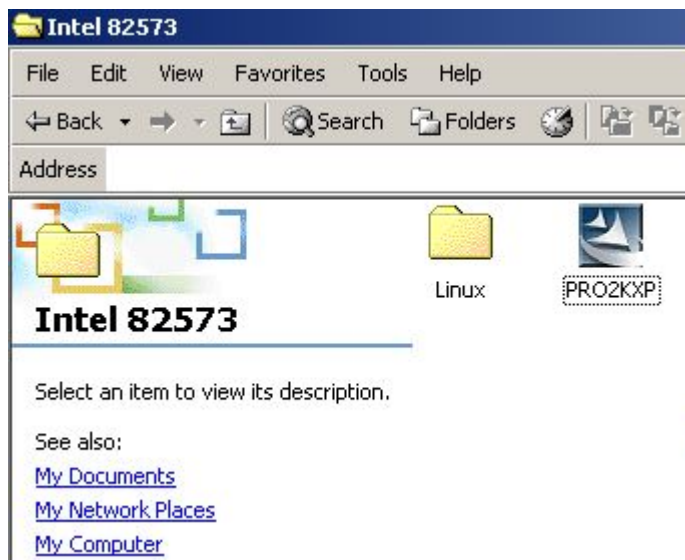

Figure 6-23: Intel® 82573 Driver Startup Icon
Step 10: Click the startup icon in **Figure 6-23**.